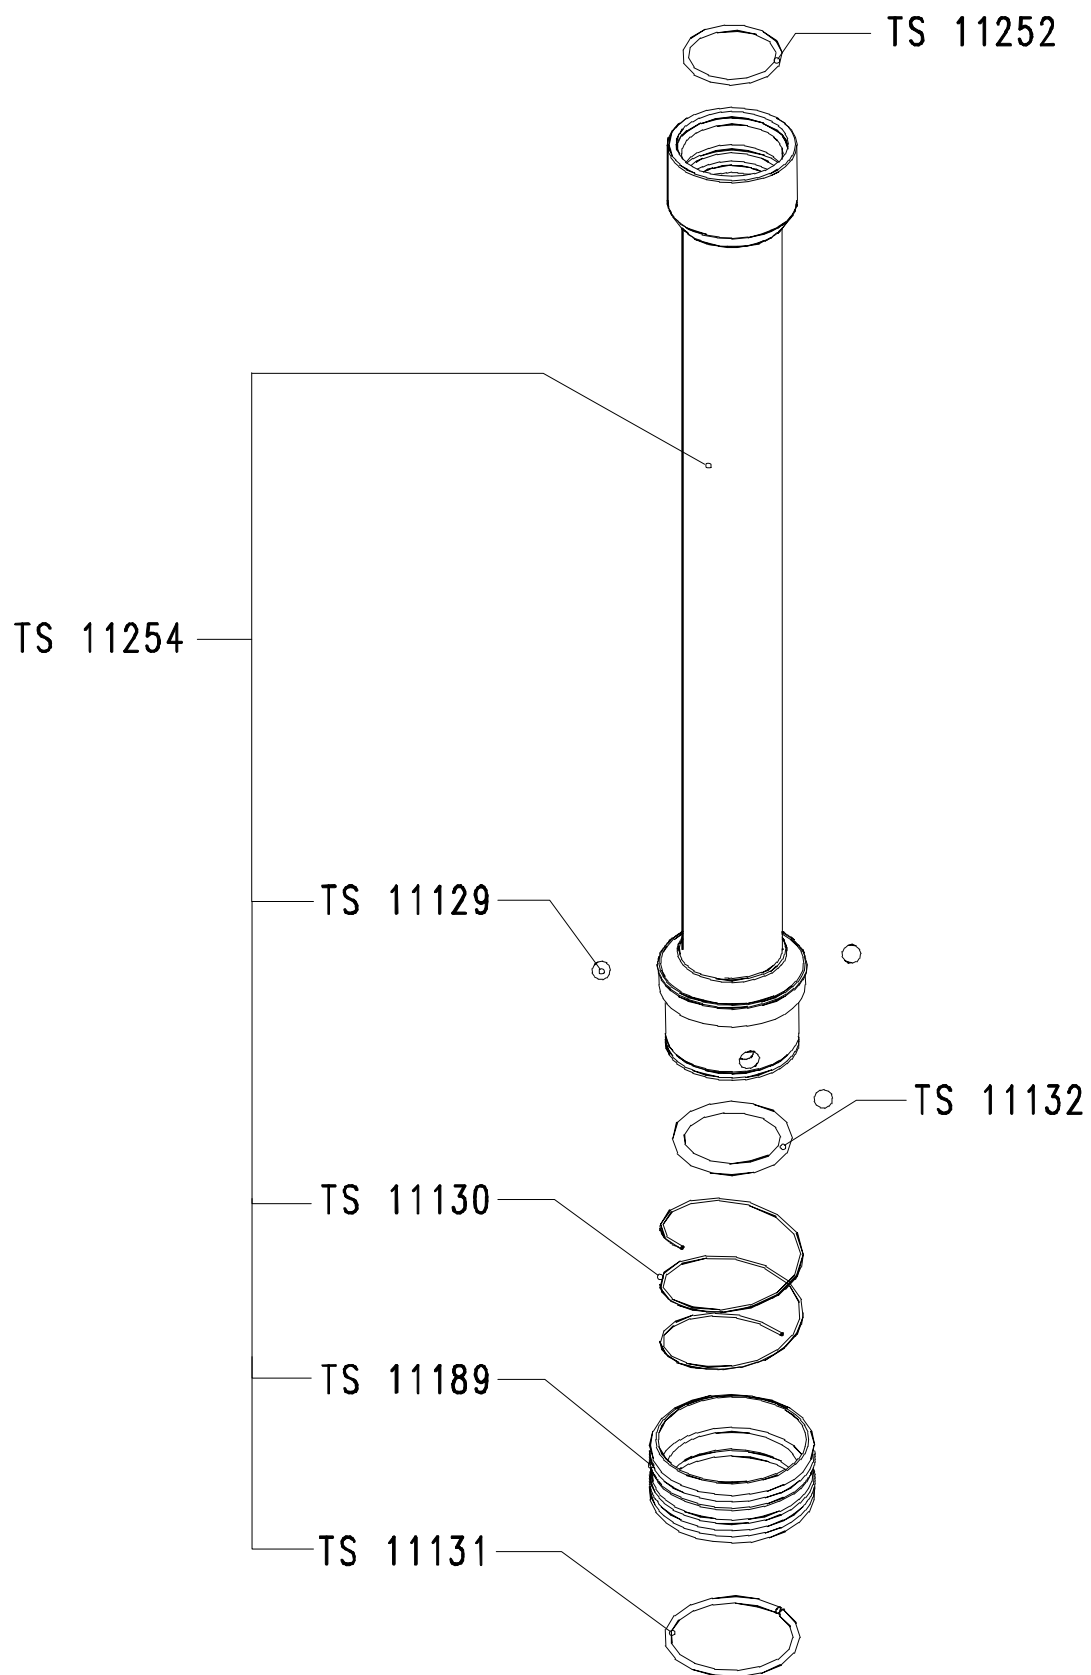

Figure 12-5: storage tube SS1-Q1 TS 10184, details
- Figure 12-5: storage tube SS1-Q1 TS 10184, details